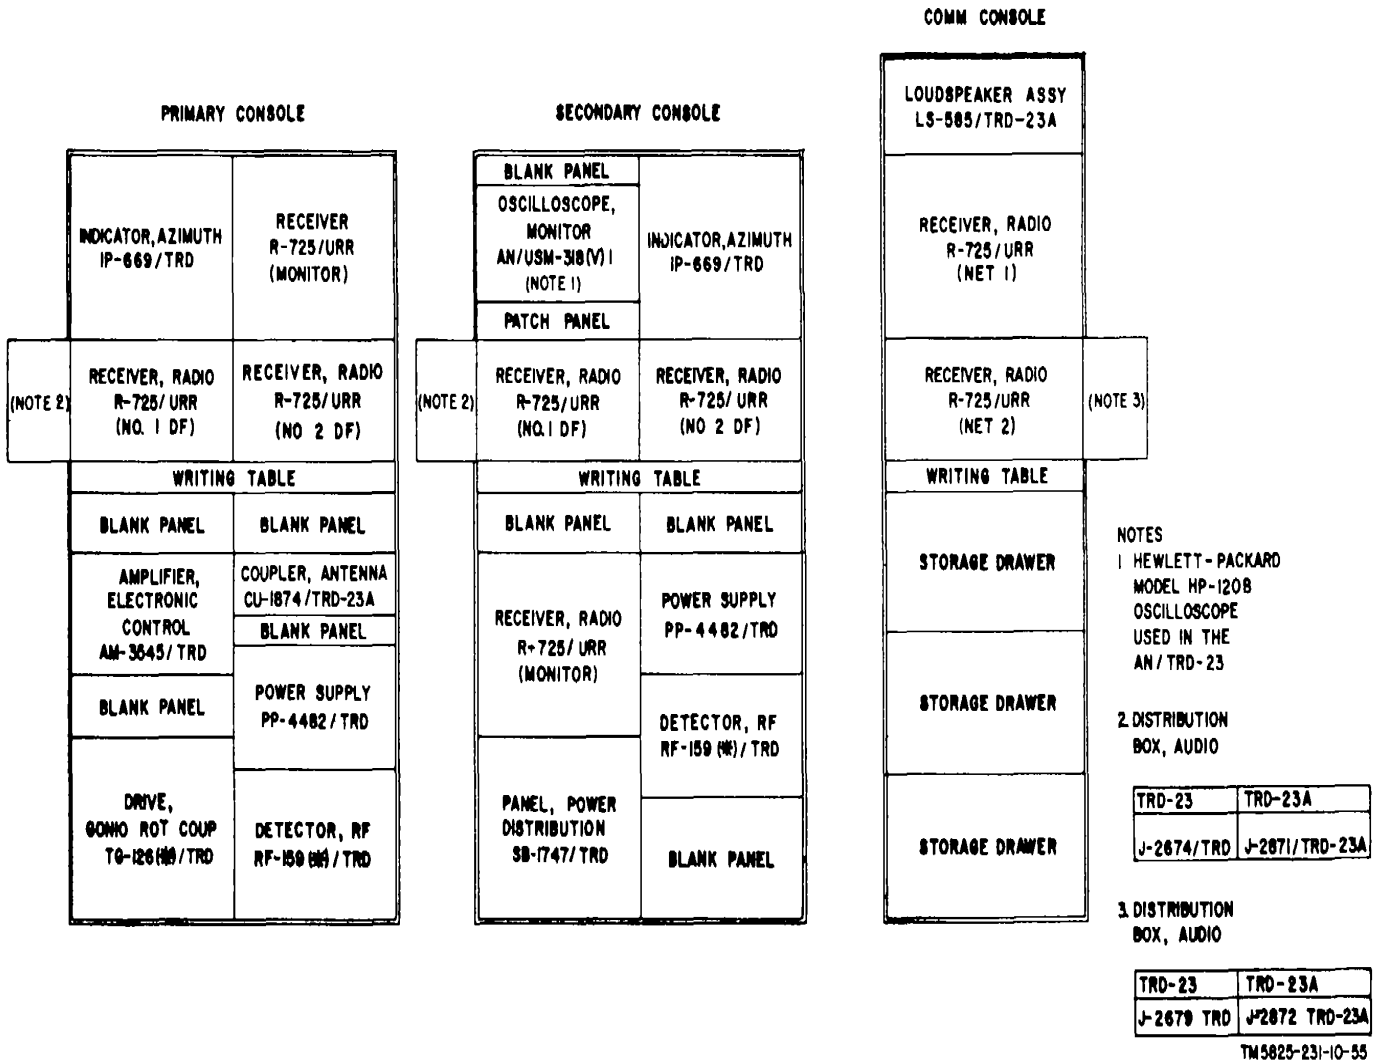

Figure 1-3 Direction Finder Set AN/TRD-23(\*), consoles.
(c) The three equipment consoles In the shelter contain all the major operating units of the AN/TRD-23(\*) (fig 1-3).
The antenna coupler is mounted in the primary console (fig 1-3).
*b. Chassis.* The goniometer drive includes a drive motor, a rotary coupler, a magnetic sync unit, and two goniometers. The rotary coupler and one goniometer are driven directly. The other goniometer and sync unit are driven by a toothed pulley and serrated timing belt. The goniometer drive assembly is mounted at the bottom of the primary console (fig 1-3). Support rails enable the unit to be pulled forward to reach the goniometer for belt change or orientation adjustment.
b. All controls and indicators are on the front panel, and all cables connect at the rear of the chassis. The unit is installed in the primary console (fig 1-3).
a. Eight receivers are installed in the AN/TRD-23(\*) (fig. 1-3).
c. Two power supplies are provided in the AN/TRD-23(\*): one in the primary console and one in the secondary console. Refer to figure 1-3 for the location of these units in the consoles.
c. Two azimuth indicators are provided with the AN/TRD-23(\*): The primary azimuth indicator is in the primary console, and the secondary azimuth indicator is in the secondary console (fig 1-3).
a. The power panel is in the secondary console and controls all power to the units in the three consoles (fig 1-3).
c. Both monitor oscilloscopes fit the standard, 19-inch rack mounting in the secondary console (fig 1-3) and are interchangeable.
a. The audio boxes provide headphone monitoring and transmitter keying input connections. An audio box is mounted on the side of each console (fig 1-3).